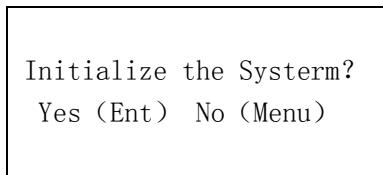

Fig3-11
7. Enter the initialization interface in the main menu can restore the factory settings. When the parameters need to be initialized, the emergency stop must be pressed or in a fault state. Press the "ENTER" key and wait for the LCD display to reset, shown as Figure 3-11.